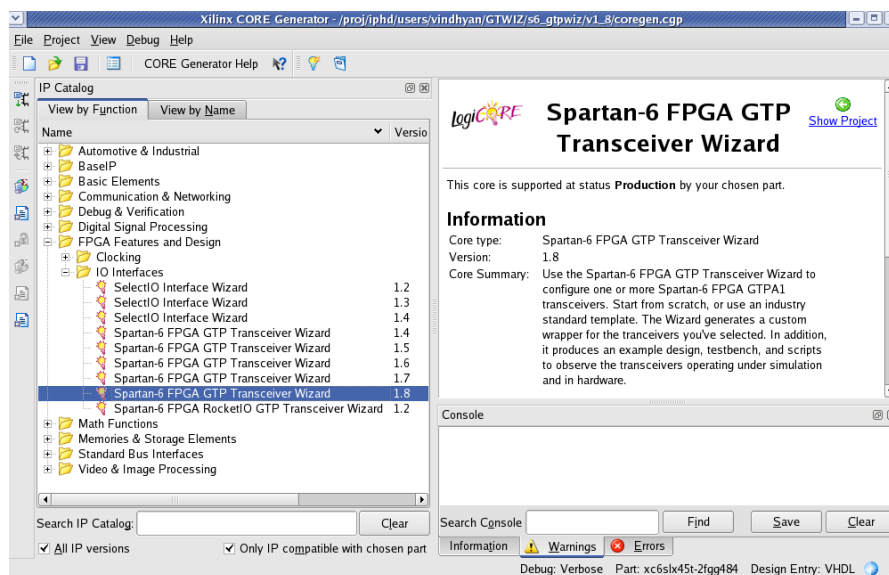

Figure 3-4: Locating the GTP Transceiver Wizard
1. Locate the Spartan-6 FPGA GTP Transceiver Wizard 1.8 in the taxonomy tree under: /FPGA Features & Design/IO Interfaces. (See Figure 3-4)